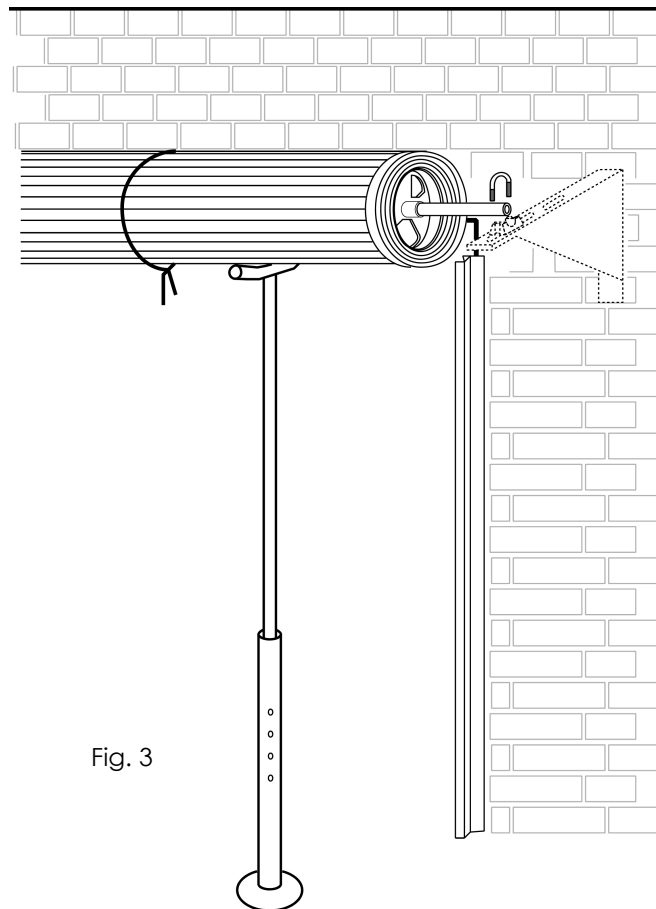

Fig. 3
- 2.1 Roll the door up until the door curtain is out the door guides / tracks and use a rope to firmly tighten the roll in the middle of the door (see Fig. 3).
- 2.3 Using a suitable prop, e.g. step ladder, together with soft padding to protect the door surface, support the door on the right-hand side (see Fig. 3)